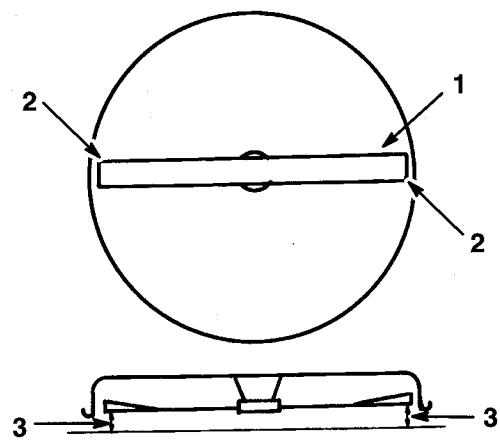

Figure 44
4. Carefully rotate blade(s) side to side (Fig. 44). Measure between the outside cutting edges and the flat surface (Fig. 44). If both measurements are not within $3/16"$ (4.762mm), an adjustment is required; refer to steps 5 and 6.